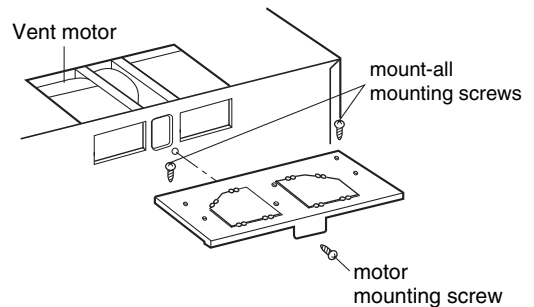

Figure 14
1. Remove one motor mounting screw and two mount-all mounting screws. Take off the mount-all from the oven. See Figure 14.
5. Reattach mount-all to microwave oven. Attach motor mounting screw and then two mount-all mount screws. See Figure 14.